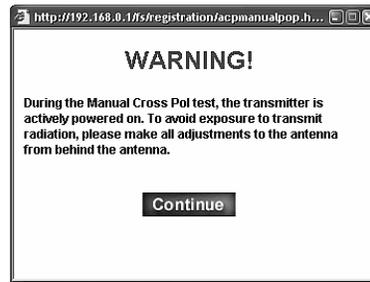

Figure 66: Manual cross-pol warning message
10. Click **Continue** on the Warning pop-up shown in Figure 66.